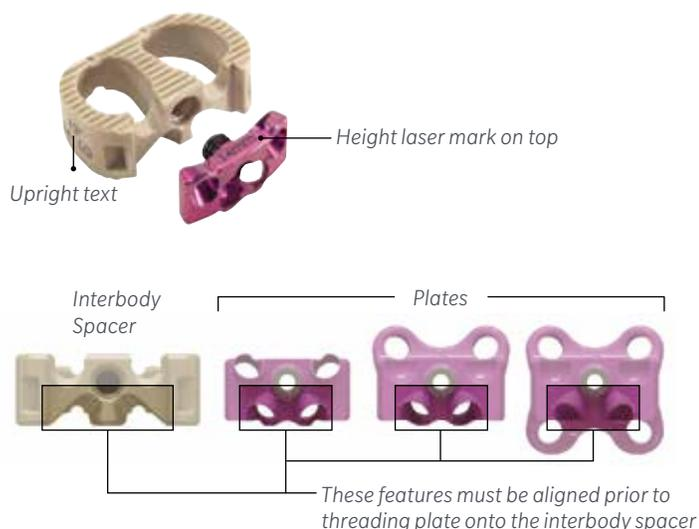

Figure 4:
- At the back table, align the plate and interbody spacer such that the set screw on the plate is positioned straight into the PEEK-OPTIMA spacer prior to threading it in (Figure 4).